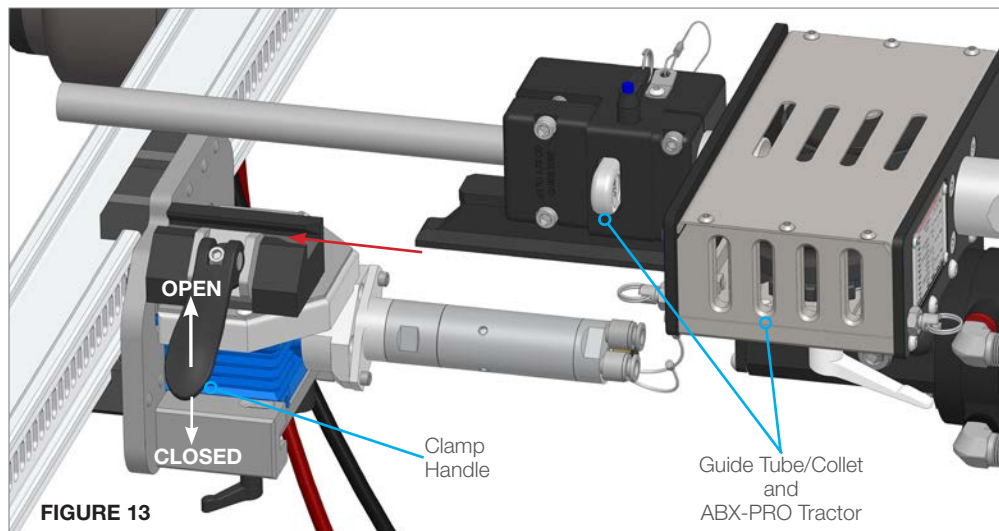

FIGURE 13
16. Loosen the Collet Block Cap with a 4mm Hex Wrench. (Figure 13)
18. Pull the Clamp Handle up to open the clamp and slide the Guide Tube/Collet and ABX-PRO Tractor into the Clamp Block. Secure in place by closing the Clamp Handle. (Figure 13)